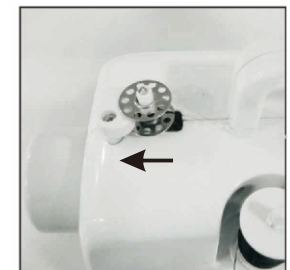

Fig.13
3. Put the bobbin on the bobbin winder pin, wind thread clockwise around bobbin several times (Fig.13)